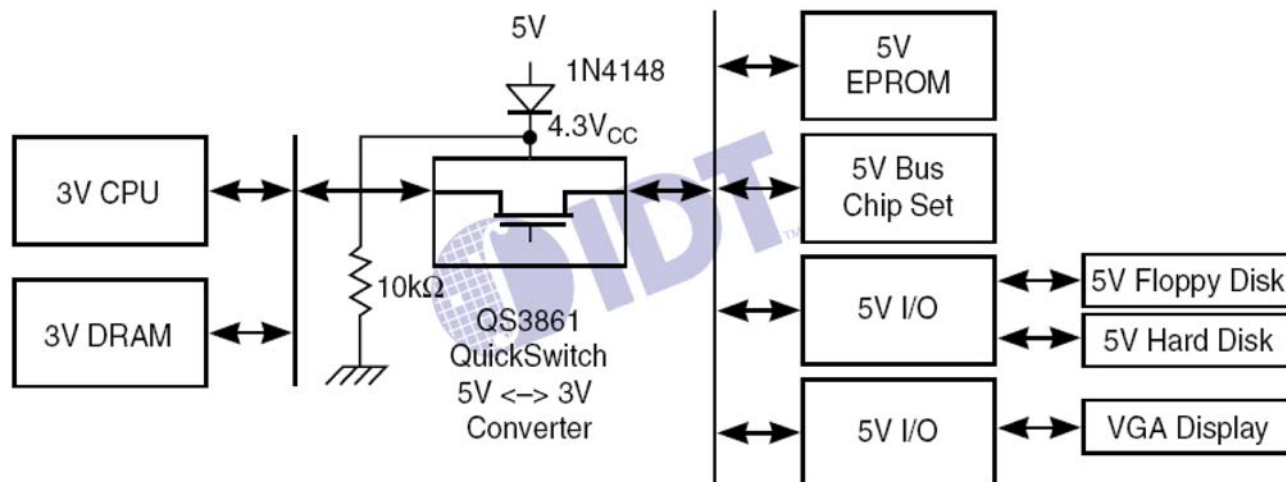

Figure 5. System with QS3861 as 5V TTL to 3V TTL Converter
*IDT also offers some devices such as QS3384 which have an internal current path from VCC to ground. These devices have a specified maximum power supply current of 1.5mA and do not require the external bias resistor shown in Figure 5.